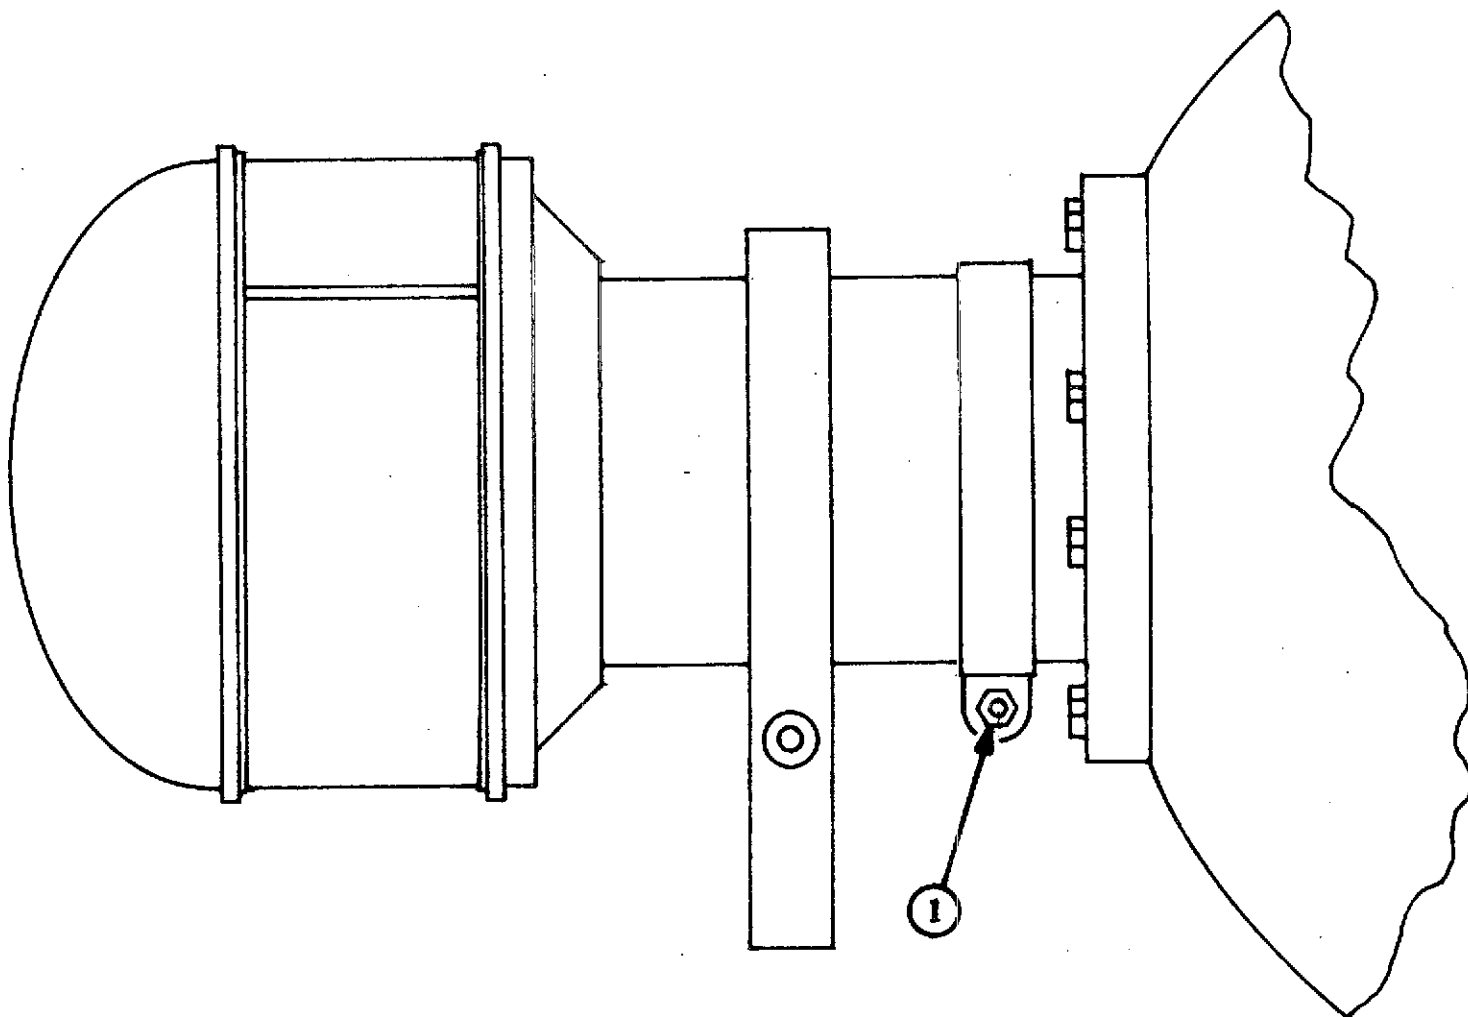

Figure 2-3. NASA-6 Nose Field Mill
2.4 NASA-6 NOSE FIELD MILL (FIGURE 2-3)